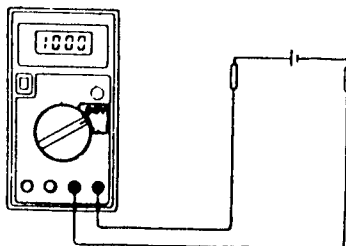

Fig. 5-1 DC Voltage measurement
2. Set the FUNCTION switch to the DC V range to be used and connect the test leads across the source or load under measurement. see Fig. 5-1.